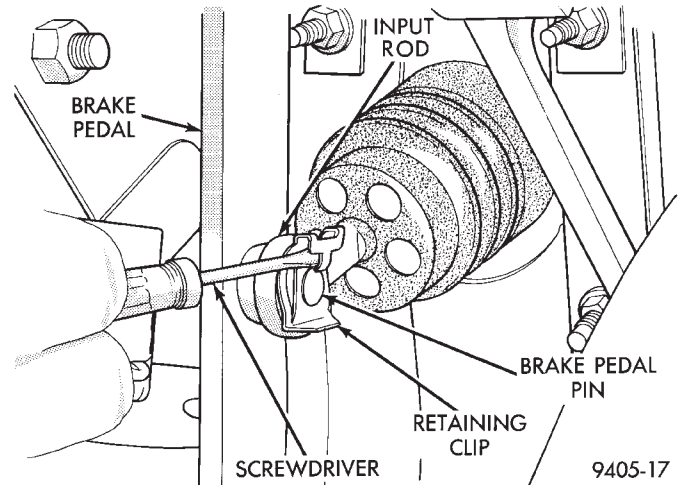

Fig. 119 Brake Pedal Retaining Clip
(4) Remove the retaining clip (Fig. 119) from the brake pedal pin using following procedure. Position a small screwdriver (Fig. 119) between the center tang on the retaining clip and the brake pedal pin. Rotate blade of screwdriver enough so center tang on retain-
ing clip can pass over end of brake pedal pin (Fig. 119). Then pull retaining clip off brake pedal pin.
(5) Install a **NEW** retaining clip (Fig. 119) on the brake pedal pin.